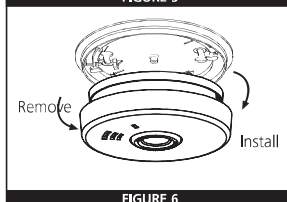

FIGURE 6
1. To activate the alarm, install the alarm on the mounting bracket (Figure 6) and rotate the alarm clockwise (as indicated on the alarm cover) until the alarm snaps into place.